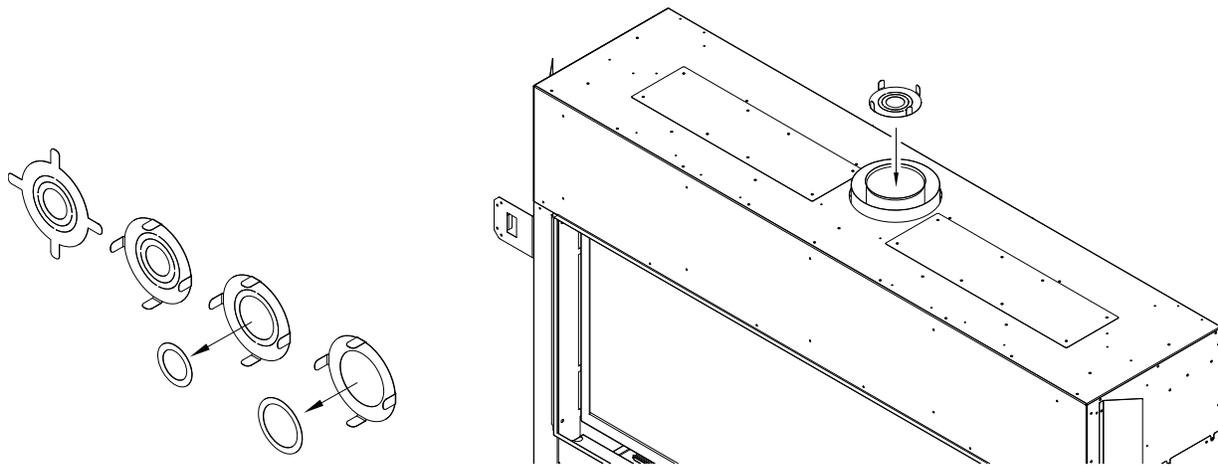

Figure 7.3 - Restrictor Plate Installation
- The restrictor plate is shipped with all inner rings intact, and when installed, provides the most vent restriction. There are (2) inner rings that can be knocked out. As you knock out and remove an inner ring you have less vent restriction whereas removing both inner rings you will have the least amount of vent restriction.
- Follow Figure 7.3 for restrictor plate installation before attaching venting. For vent restriction plate recommendations and adjustments, see section 11.2.3, Vent Restriction (after installation).